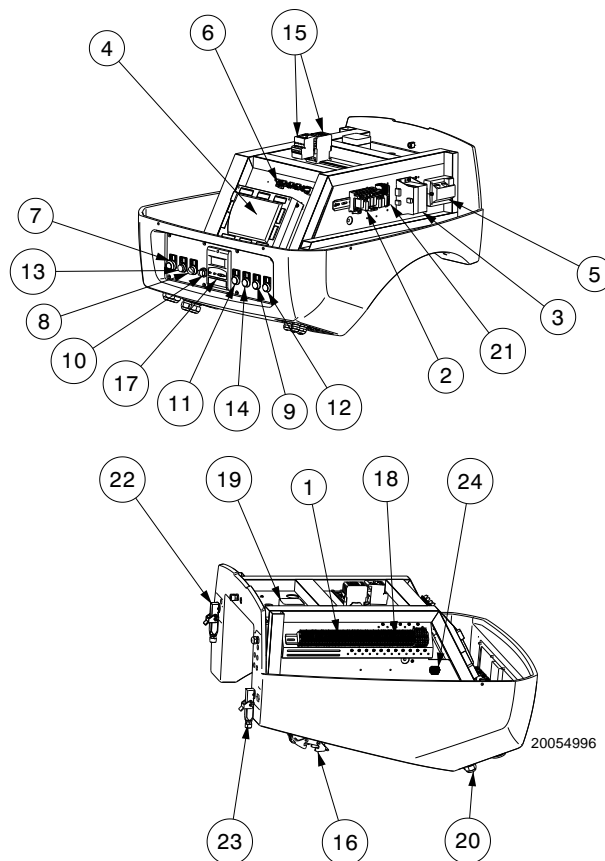

fig. 5
- **Control box lockout:** if the control box pushbutton (**red led**) 13)(Fig. 5) lights up, it indicates that the burner is in lockout. release by pressing the pushbutton 13)(Fig. 5).